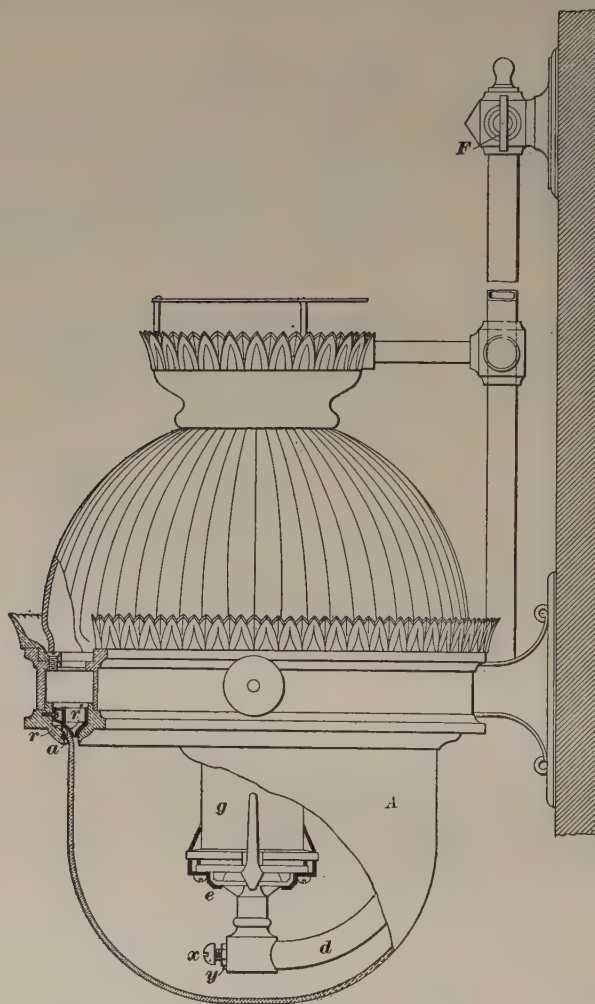

FIG. 14
14. Fig. 14 is an illustration of an **Argand bracket lamp**, part of the bowl A being shown broken away, so as to disclose the chimney, burner, etc. in the interior of the